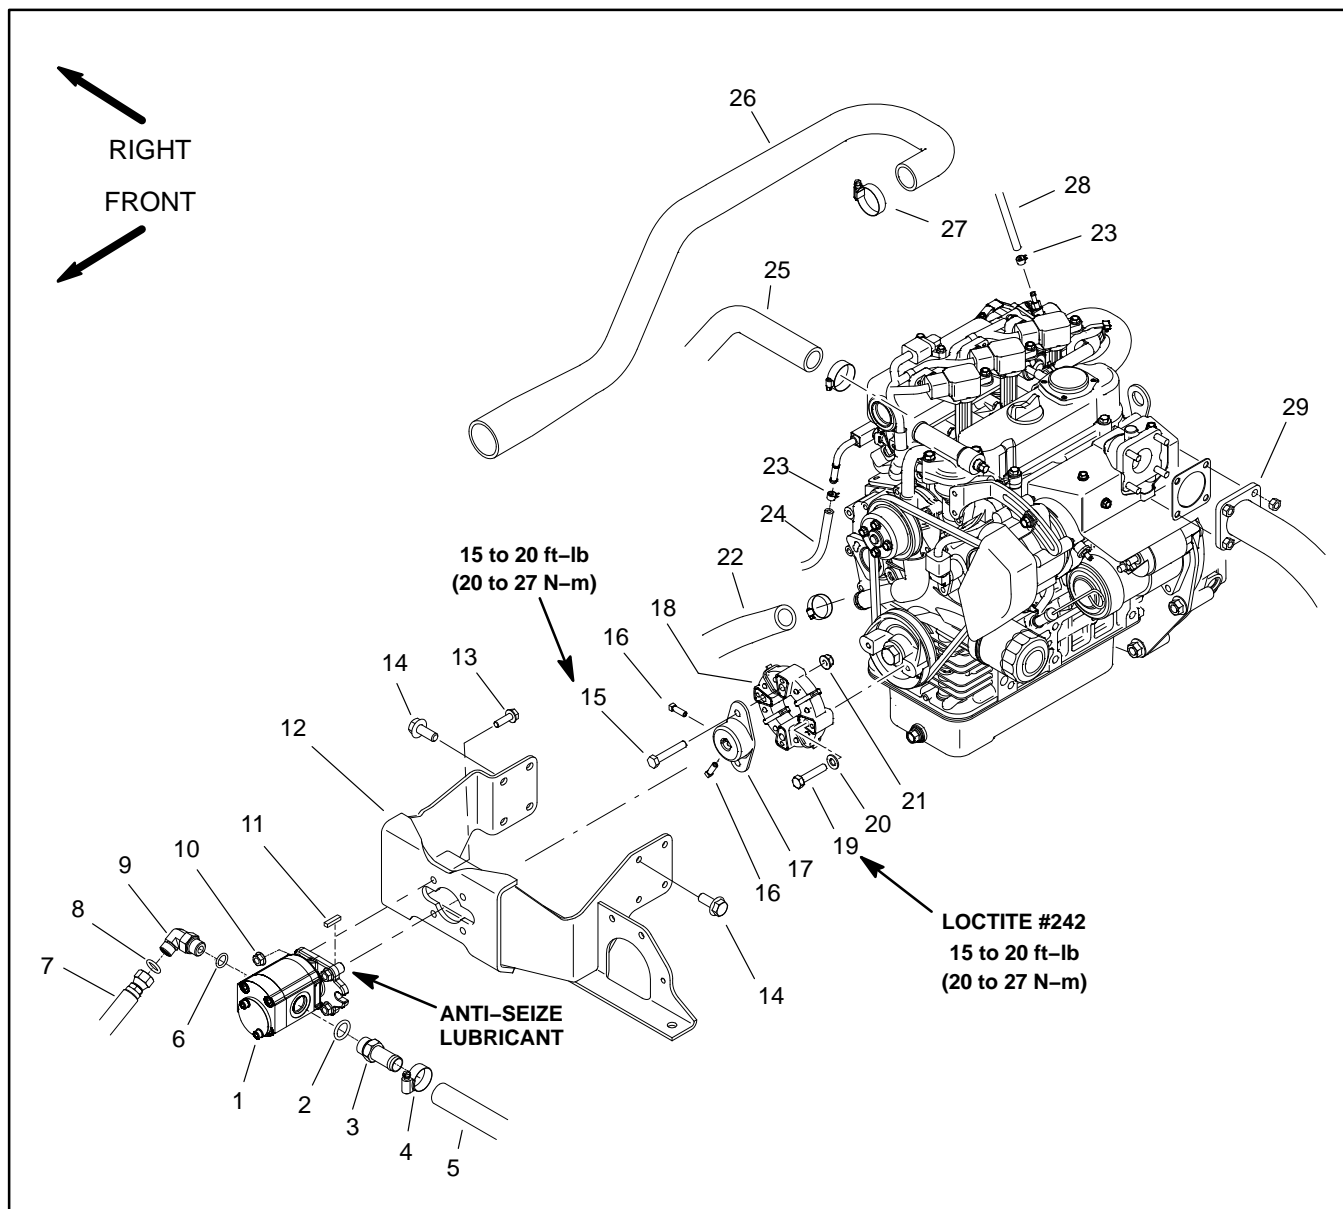

Figure 14
Engine Removal (Fig. 14)
Engine Installation (Fig. 14)
3. If engine mount was removed, secure mount to engine with seven (7) flange head screws. Do not install the screw used to secure the ground connections to the engine at this time.
5. Install two (2) dowel pins in bell housing bores (Fig. 14).